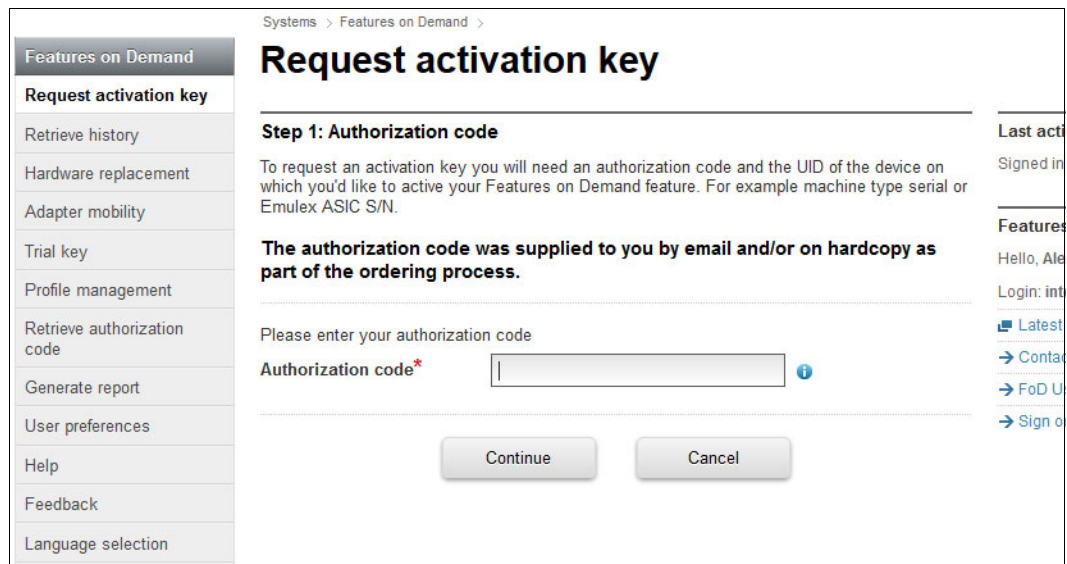

Figure 2-40 Entering an authorization code
5. Enter the authorization code that was provided to you on the Request activation key page (as shown in Figure 2-40) and click **Continue**.